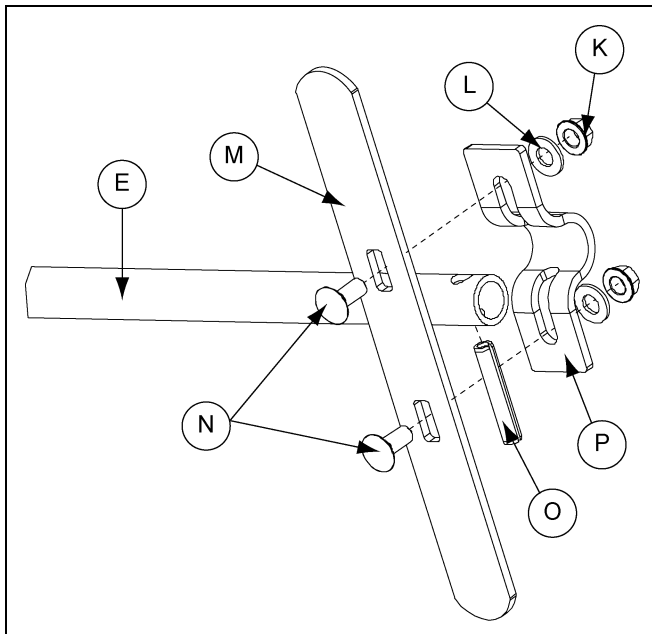

Figure 4AA
3. Attach the 1/2" control rod clamp (P) to the control rod by inserting the 5/16" x 1-3/4" long roll pin (O) through the clamp and control rod.
4. Fasten the clutch handle to the clamp (P) using two (2) 5/16" x 3/4" carriage bolts (N), flat washers (L) and serrated flange nuts (K). Install the nuts so that they secure the roll pin (O) in place. (See Figure 4AA.)